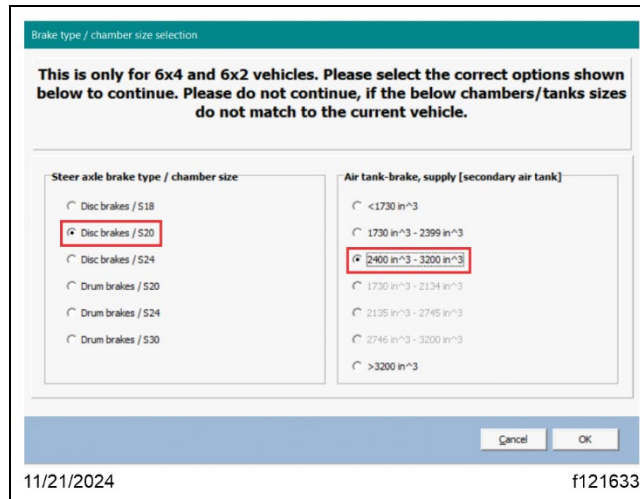

Fig. 55, GUI Selection Completed
- 16.1. For brake chamber type and size, search module '404;' for tank size, search module '459' or '462.' The correct chamber and tank sizes must be entered for the flash tool to match the update to the ABS ECU of the vehicle. See Fig. 53, Fig. 54, and Fig. 55.